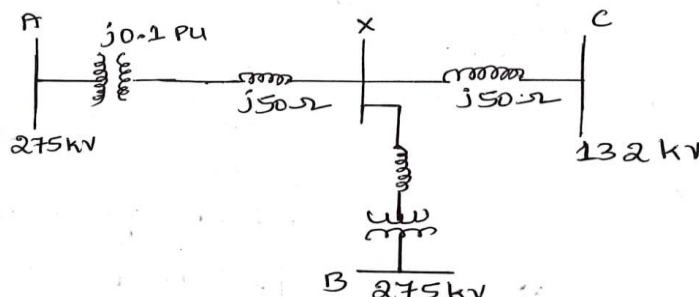

Fig. Q 7(b)
- b. Three generating stations are connected to a common bus bar X, as shown in Figure. Q 7(b), for a particular system load, the line voltage at bus bar falls by 2 kV. Calculate the reactive power injection required to bring back the voltage to the original value. All per unit values are on a 500 MVA base. Justify the answer. 10 (3 :4: 2.1.2)